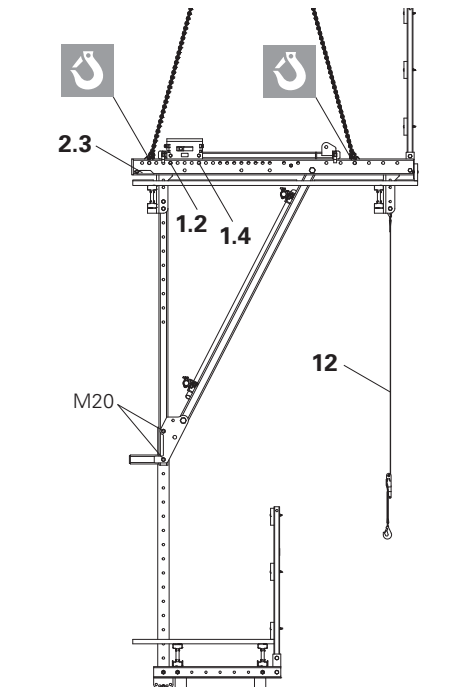

Fig. A6.02
1. Release Tension Belt (12).
6. Place finishing platform on the ground and release Bolts M20. (Fig. A6.02)